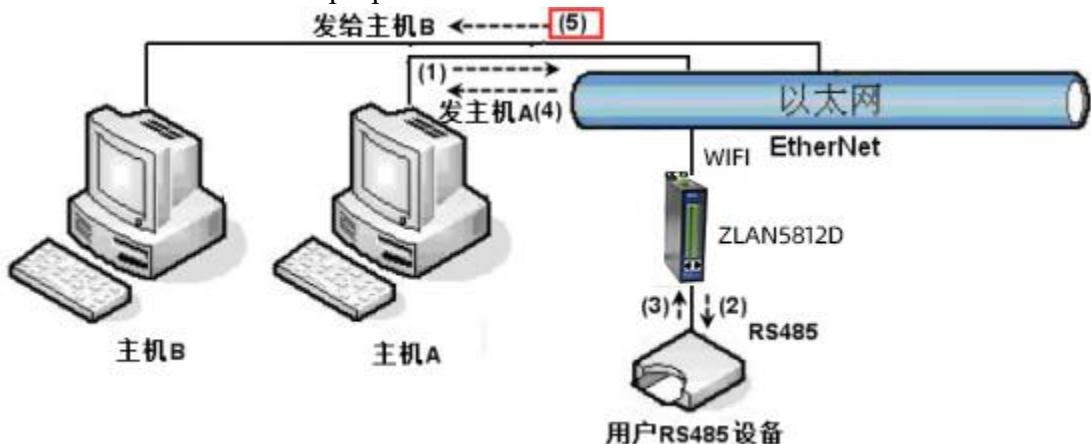

Figure 53 Multi-host function demonstration
As shown in Figure 53, in normal mode, when two hosts: host A and host B are connected to the serial port server at the same time, host A sends the (1) command, the RS485 device receives the (2) command, and the RS485 device returns (3) command, but the network port of the serial port server will send (4) to host A and (5) to host B at the same time. Since host B did not send a query, but it also received the response command (5), host B may cause a communication exception error. In multi-host mode, there will only be command (4) but not command (5), because the serial port server will automatically remember the host that needs to be returned, and will only return the command to the nearest communicating host. Host A's query will only reply to A, Host B queries and replies to Host B.
As shown in Figure 53, if the serial port device (RTU device) serves as the master station, and the network port device (Modbus TCP device) serves as the slave station, and there are multiple network port slave devices at the same time. At this time, you can let the serial port server serve as a client to connect to these multiple network port devices at the same time according to the method described in the client's connection to multiple servers.